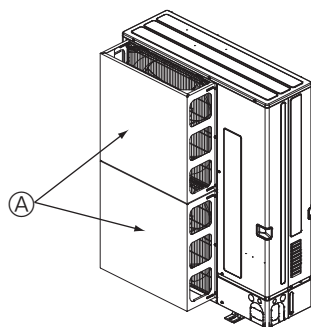
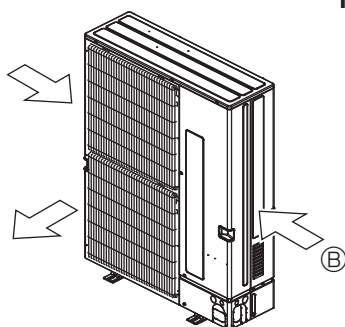

Fig. 2-4
Fig. 2-5
- ② Install an optional air guide if the unit is installed in a location where strong winds from a typhoon, etc. may directly enter the air outlet. (Fig. 2-4)
- ④ Air guide
- ③ Position the unit so that the air outlet blows perpendicularly to the seasonal wind direction, if possible. (Fig. 2-5)
- ⑤ Wind direction